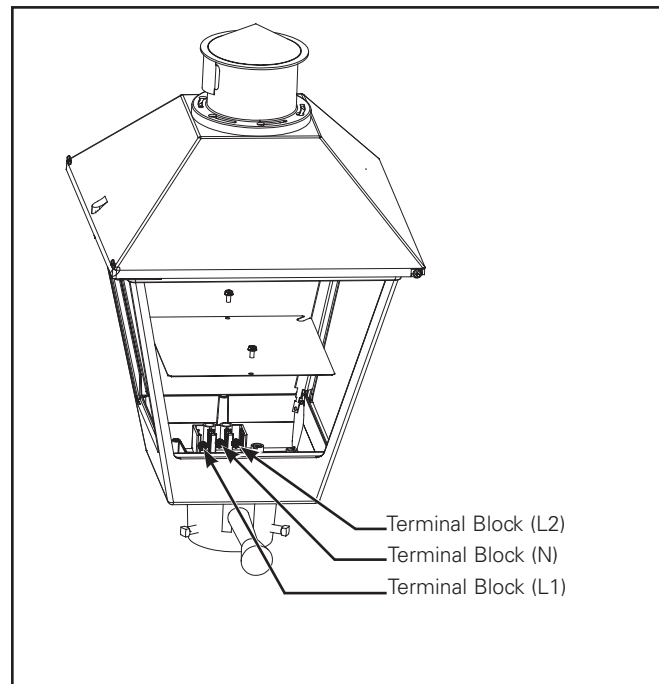

Figure 2.
3. Connect service leads to the appropriate position with the terminal block. (Figure 2.)
6. Connect service leads to the appropriate position with the terminal block. (Figure 2.)